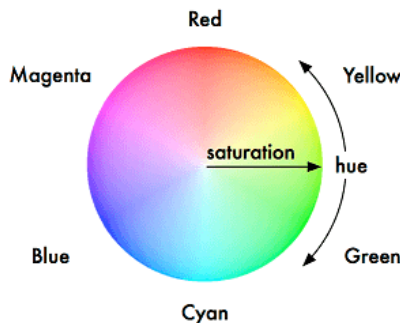

Figure 6.11. The Colour Wheel
- **Hue:** the colour's position in the possible range of colours, from red, going through yellow, green, cyan, blue and magenta, and finally returning to red. As the range 'wraps around', you can visualise it as a circle with the colours positioned around the edge, with red at the top, green at the lower right, blue at the lower left, and the intermediate colours in between. The angle between 0 and 360 degrees specifies the hue of the colour: red has a hue of 0 degrees, yellow has a hue of 60 degrees, and cyan has a hue of 180 degrees. See *Figure 6.11, "The Colour Wheel"*.